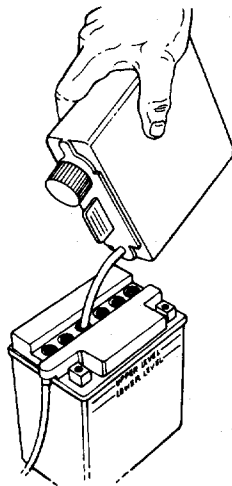

FIGURE 13.
5. Fill each battery cell slowly and carefully to the **UPPER LEVEL** line marked on battery. See figure 13. Use caution as the acid level will rise rapidly after the bottom of the cell is filled.